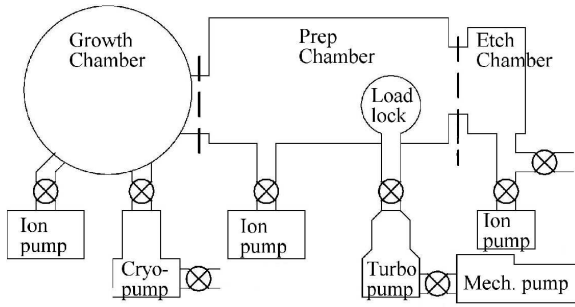

Figure 1: Schematic of the MBE vacuum system
The MBE chamber can be sub-divided into three smaller chambers and the load lock (LL): the prep chamber for pre-growth, the growth chamber (GC) where samples are grown, and the etch chamber for un-growth. The prep chamber contains the load lock where samples are loaded and unloaded, the high temperature heating stage (HTHS) and the trolley line. The growth chamber contains the sources, the cryo-shroud, RHEED gun, flux gauge and the manipulator. The etch chamber simply has a sample holder and input lines for etching chemicals (Cl, Br, etc). Each of these smaller chambers has its own pumping system and each is separated from the others by a gate valve, see Fig.1. These gate valves should only be opened when the pressure on either side is similar and preferably lower than  $2 \times 10^{-8}$ . **The load lock should NEVER be opened at the same time as the valve between the prep chamber and the growth chamber.**